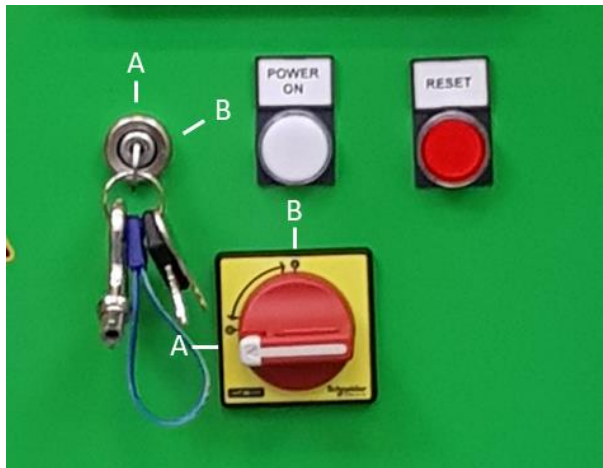
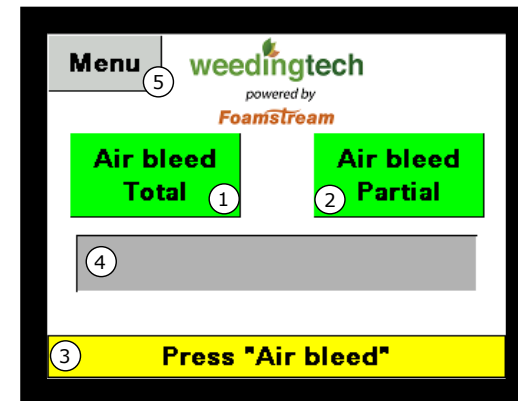

Figure 2 - Detail of the front panel
Figure 3 - Start-up screen of the PLC
- ✓ Start the generator by turning the key (item '5' in Figure 2) in a clockwise direction to position 'B', release to position 'A' when the engine starts
- ✓ Turn the isolator switch (item '2' in Figure 2) to position 'A', the PLC screen (item '6' in Figure 2) should illuminate
- ✓ Press the 'RESET' button (red button, item '3' in Figure 2), the 'FAULT' indicator goes out and you should see the screen represented in Figure 3.
- ✓ Wait a few seconds before requesting air bleed: buttons '1' or '2' in Figure 3.